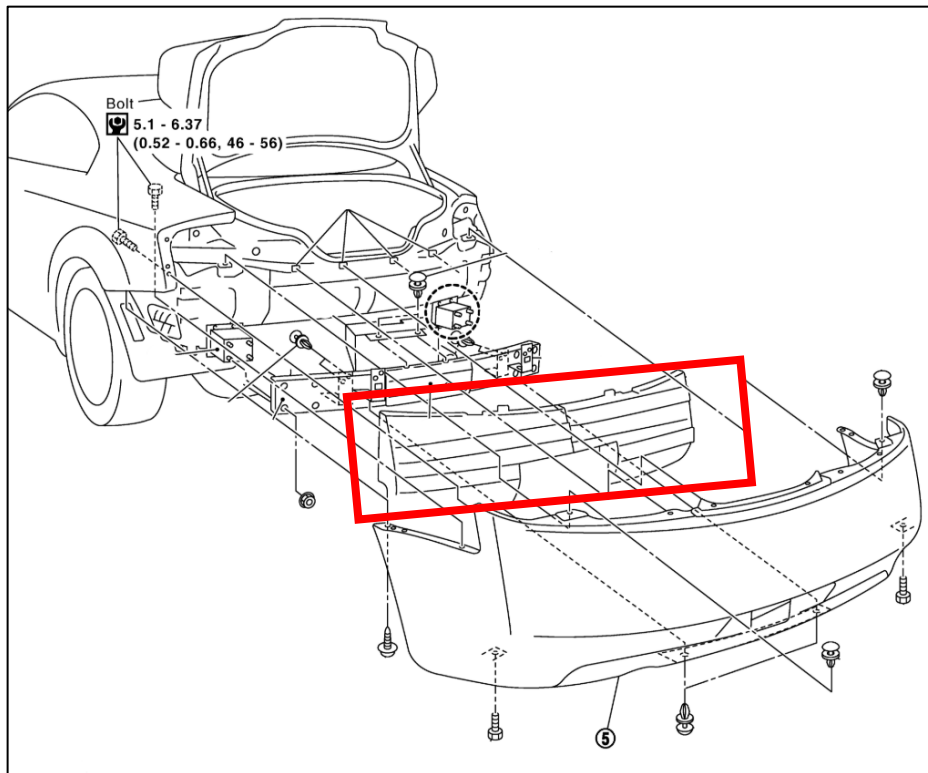

Figure 12
28. Remove the Foam Crash Support from the vehicle. *Figure 12.*